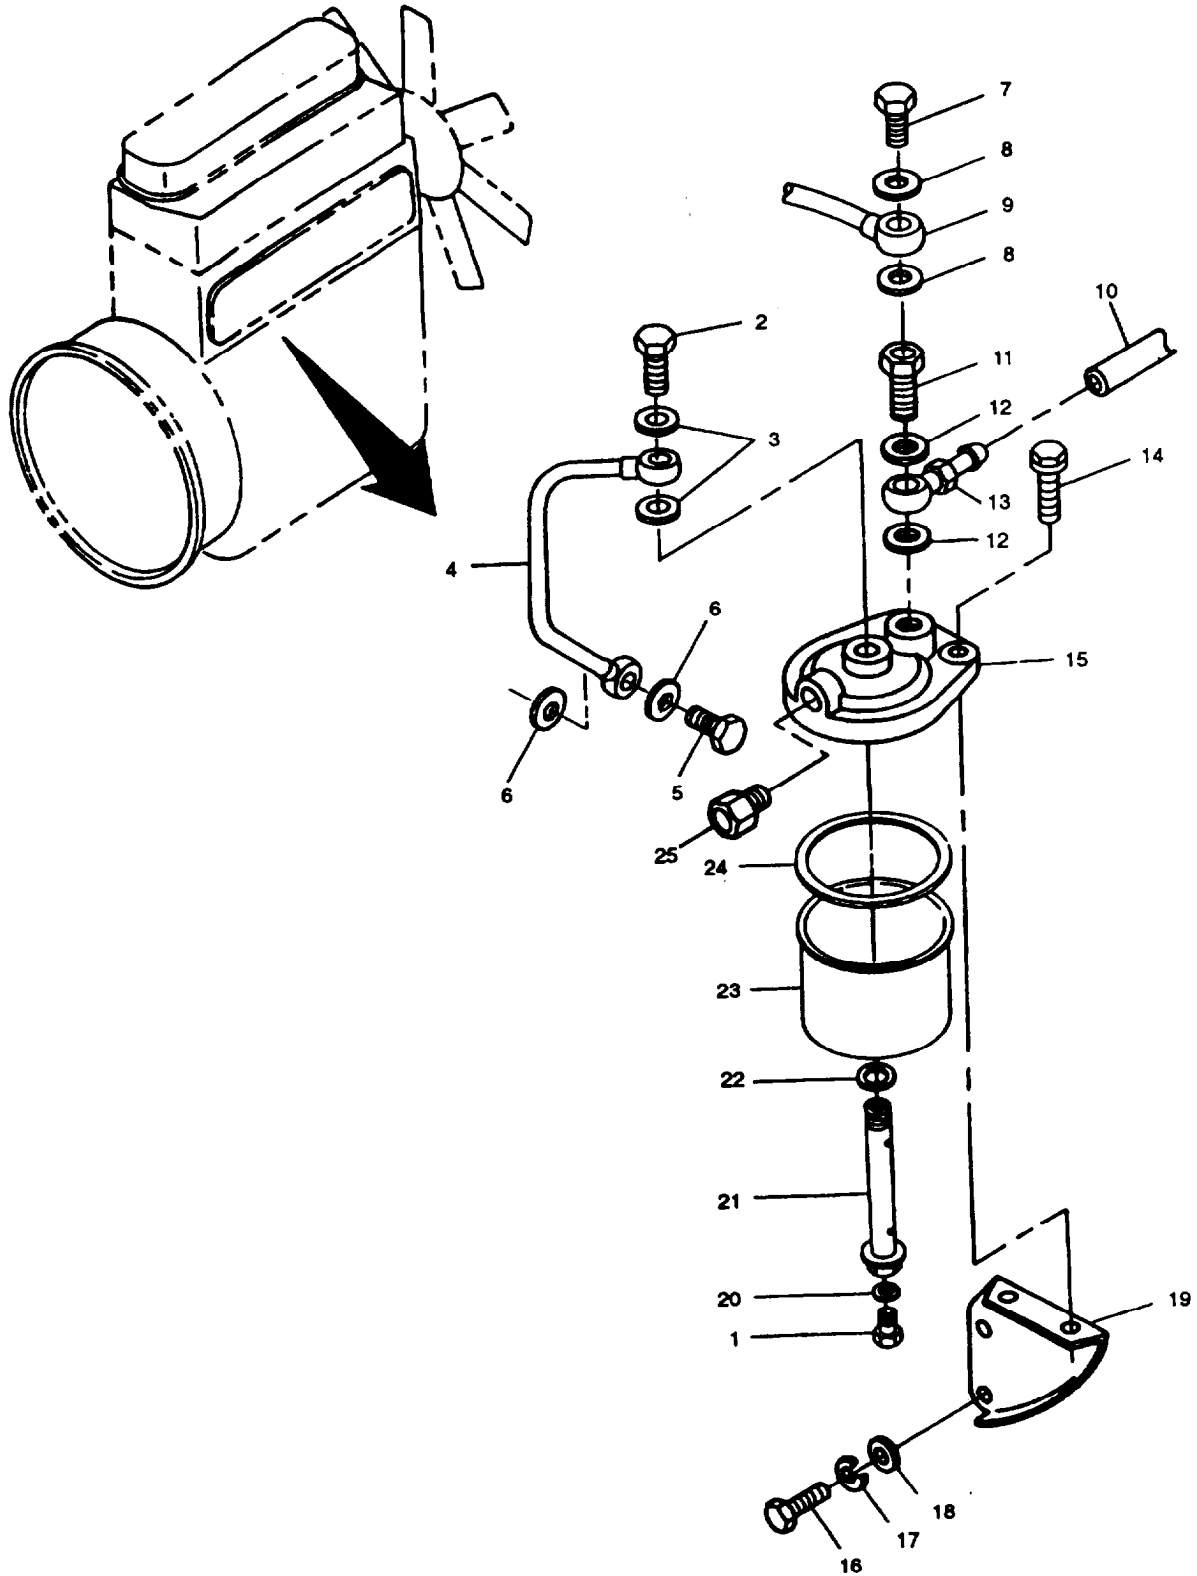

FIGURE 3-3. Fuel Filter Assembly
- a. Loosen drain plug (1, FIGURE 3-3) on bottom of filter and drain fuel.
- b. Remove fluid passage bolt (2) securing fuel tube (4) to top centerfitting of filter body (15). Remove and discard two seals (3).
- c. If necessary to remove fuel tube (4) remove fluid passage bolt (5) securing tube to fuel injector pump. Remove and discard two seals (6). Cap openings.
- d. Disconnect fuel line from fitting (25) on side of filter body (15). Cap openings.
- a. Remove drain plug (1, FIGURE 3-3) and preformed packing (20) from thru-bolt (21). Discard preformed packing (20).
- b. Remove thru-bolt (21) and remove preformed packing (22), filter bowl (23), and preformed packing (24) from body (15). Discard preformed packings (22 and 24).
- c. If replacing entire filter assembly, remove and retain fitting (25).
- a. Position new preformed packing (22, FIGURE 3-3) on thru-bolt (21). Position new preformed packing (24) and filter bowl (23) on body (15) and secure with thru-bolt (21). Tighten thru-bolt to 22 ft-lbs (29.8 Nm).
- b. Install new preformed packing (20) and drain plug (1) into thru-bolt (21).
- c. If removed, install fitting (25).
- a. If removed, position bracket (19, FIGURE 3-3) on engine block and secure with two bolts (16). new lockwashers (17), and washers (18).